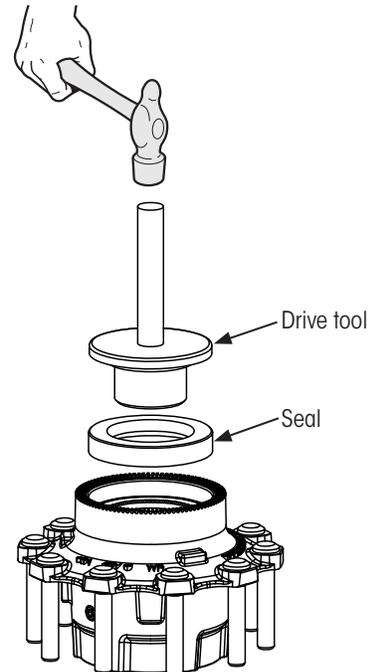

Figure 13: Hub-mounted seal installation
NOTE: A hub seal driver (Figure 13) is recommended and can be obtained from seal manufacturer.
4. **Place** seal onto the drive tool (Figure 13) for installation into the hub according to seal manufacturer's instructions.